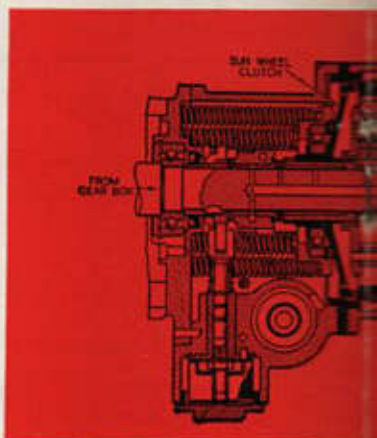

Fig. 2
When in direct top gear (see Fig. 2) the overdrive is, of course, inoperative. The drive from the gearbox to the propellor shaft is taken through the rollers (A) from the gearbox main driving shaft (B) to the outer member of the uni-directional clutch (C), and so direct drive is transmitted.
This clutch slides on the sun wheel splined extension (E) and it is pushed by springs to engage with the corresponding cone of the annulus (F). This, therefore, locks the sun wheel to the annulus. Between the annulus and the sun wheel are the planet wheels which are carried by the Planet Carrier (G) (Fig. 2) which is mounted on the Driving Shaft (B). The planet wheels are therefore also locked and resistance to over-run is provided by the engine through the gear box and main drive shaft to the planet wheels.